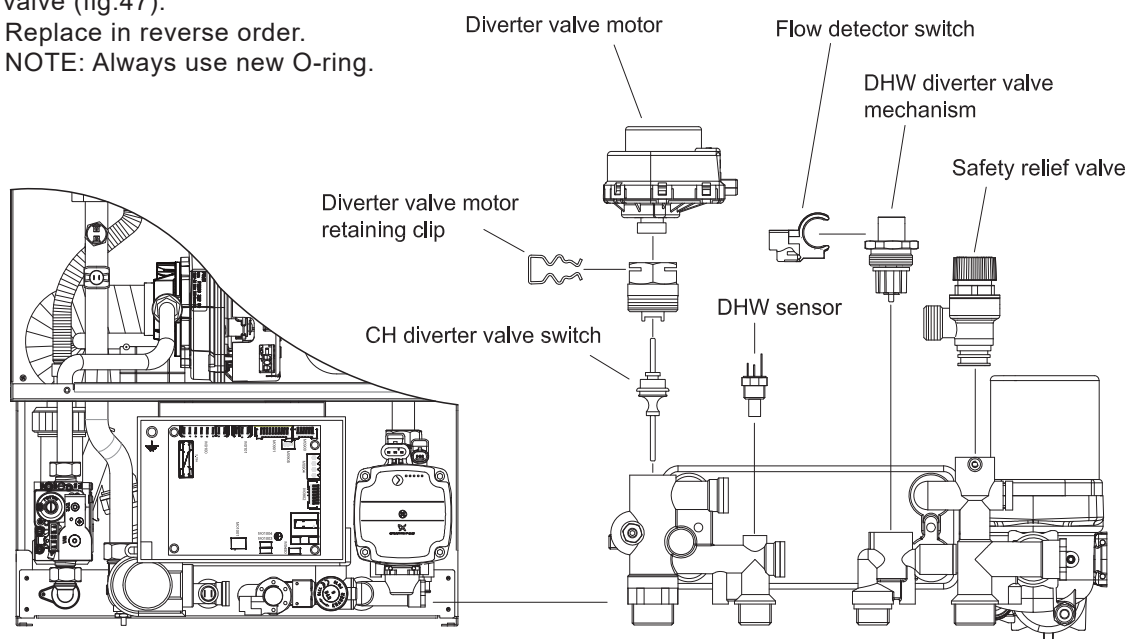

Fig.46
Unscrew the two allen screws that connect the DHW heat exchanger and pull it out from the boiler (fig. 46).
8.12 TO REMOVE/REPLACE DIVERTER VALVE MOTOR (Fig. 46)
8.13 TO REMOVE/REPLACE C.H. DIVERTER VALVE (Fig. 46)
Remove the panel control box (sect. 8.222). Close the on/off valves for the heating circuit and drain the water at drain point (fig.46).
8.14 TO REMOVE/REPLACE D.H.W. DIVERTER VALVE MECHANISM (Fig. 46)
8.17 TO REMOVE/REPLACE SAFETY RELIEF VALVE (Fig. 46)
8.18 TO REMOVE/REPLACE D.H.W. SENSOR (Fig. 46)